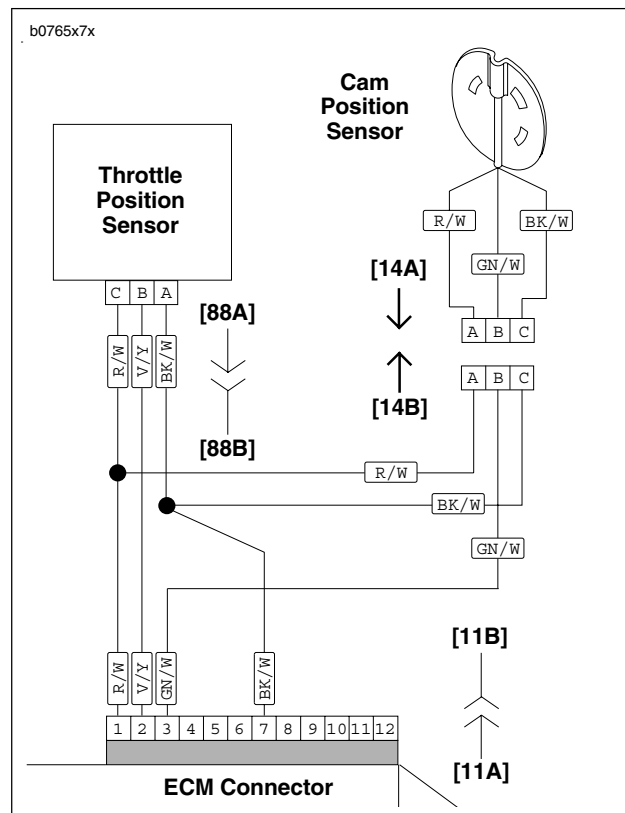

Figure 4-68. Connecting Sensor Wires
2. Install trigger rotor (17).
- a. Apply LOCTITE 243 (blue) to threads of bolt (18).
- b. Position trigger rotor (17) onto end of camshaft aligning notch with camshaft slot.
3. Install cam position sensor (19) and timer plate studs (4). Rotate cam position sensor to its previously marked position to obtain approximate ignition timing.
5. See Figure 4-68. Install sensor wiring terminals into correct positions in plug end of connector [14]. R/W, GN/W and BK/W wires of plug end (from cam position sensor) must match same color wires in receptacle end of connector (from ignition module wiring harness). Install pin terminals. See B.2 DEUTSCH ELECTRICAL CONNECTORS under B.1 AMP MULTILOCK ELECTRICAL CONNECTORS.